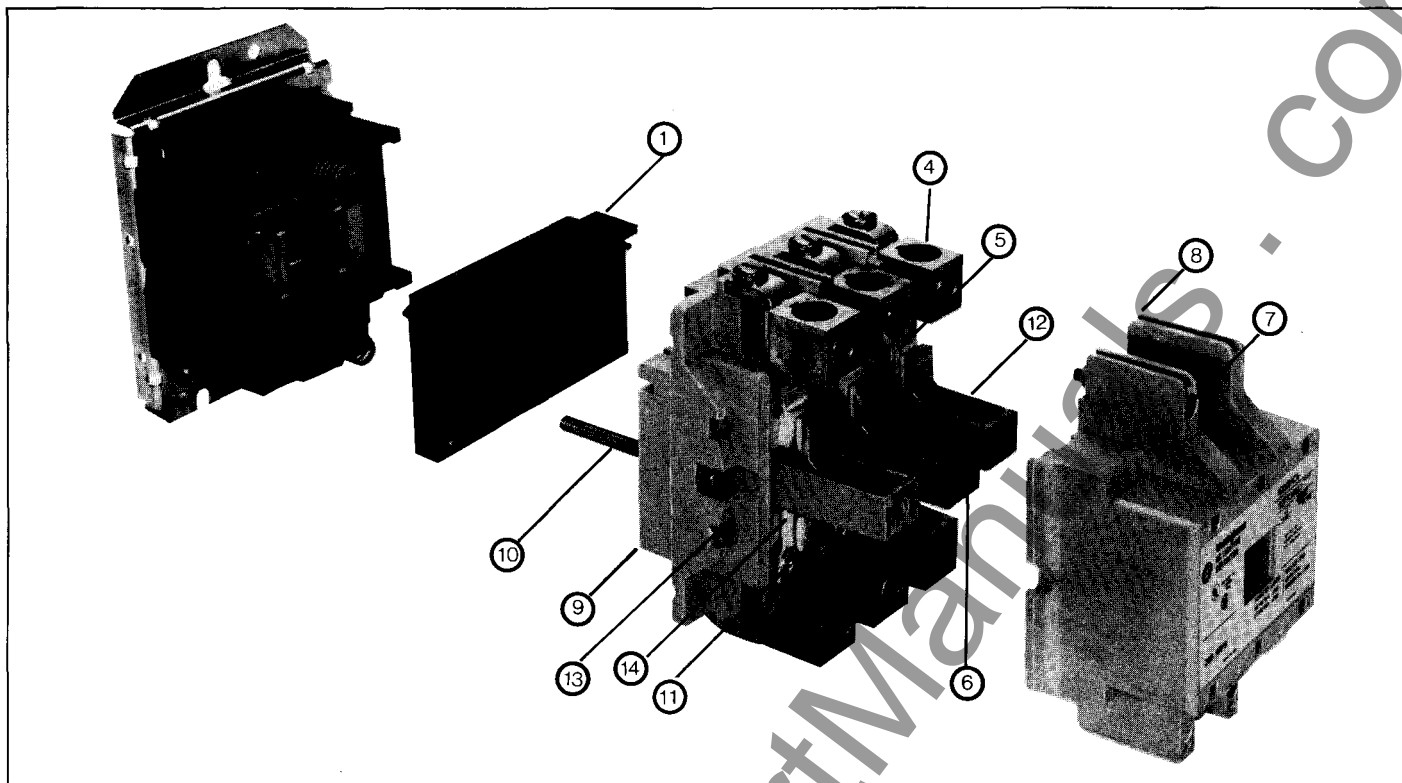

Fig. 7 200 Ampere, A202 Contactor (Exploded View)
Refer to Figure 7. Loosen the two arc box assembly screws (7) located immediately above and below the nameplate and remove the arc box (8). Contacts (5) are visible. Retighten the screws per Table II.
Refer to Figure 7. Loosen the assembly screws (10) located to the immediate left and right of the arc box. Pull the loosened upper base structure (9) forward. Pull the coil (1) from the upper base, plug in a new coil, replace the upper base structure and check the auxiliary contacts for secureness when repositioning the upper base. Tighten the assembly screws referring to Table II.